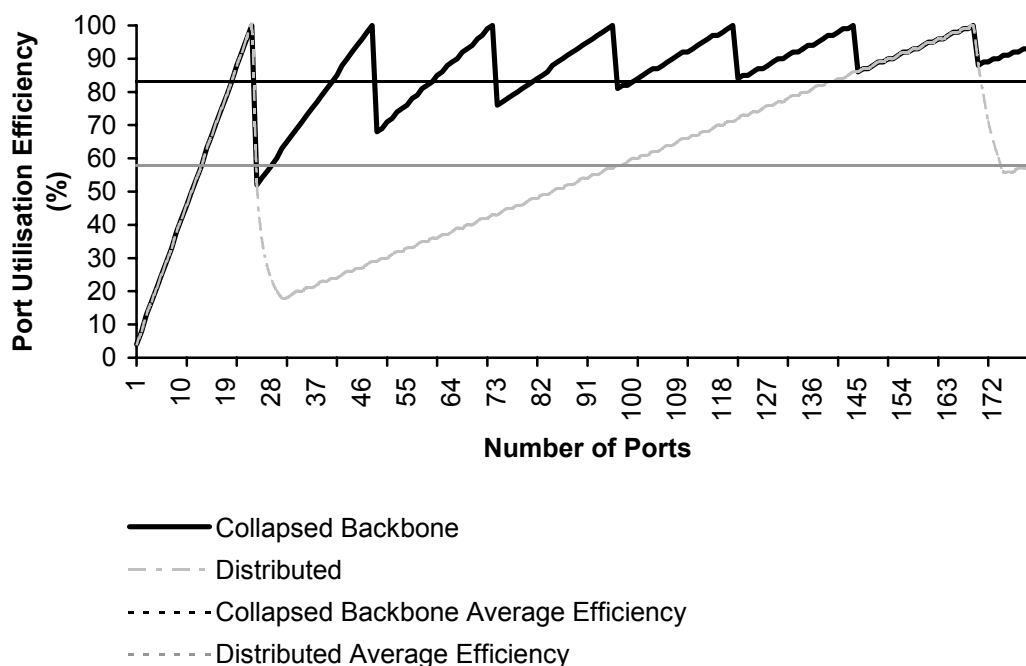

Figure 1.5 Port utilisation efficiency
- More efficient utilisation of equipment ports (see Figure 1.5)
Figure 1.5 clearly shows the superior equipment port utilisation efficiency of a centralised cabling architecture.